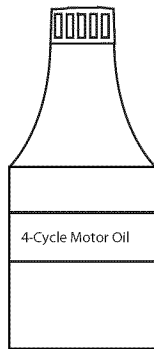

Fig. 5
Your unit is supplied with one 2.5 fluid oz. (75 mL) bottle of SAE 10W-30 SF, SG or SH oil (Fig. 5).
1. Unscrew the top of the bottle of oil and remove the paper seal covering the opening. Replace the top. (Fig. 5).